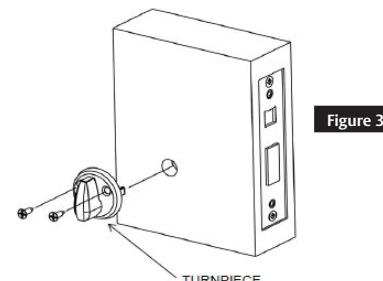

Figure 3
- 6 Attach turn-piece as shown. (See Figure 3)